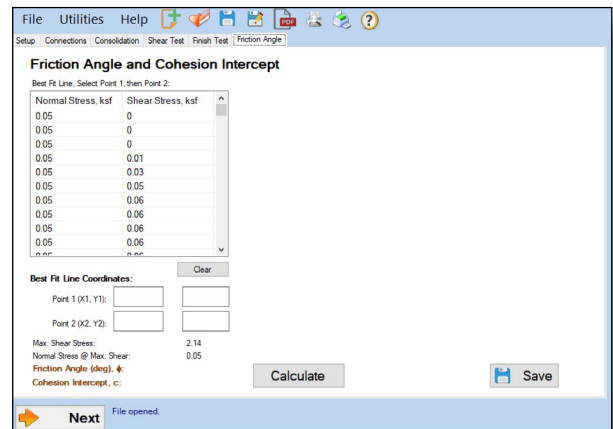

Figure 18: Friction Angle Tool
1. Open spreadsheet application. Select **File > Open > Browse** to locate the test file(s). In the bottom right corner of the file explorer (Figure 18) select **All Files** from the drop-down menu.